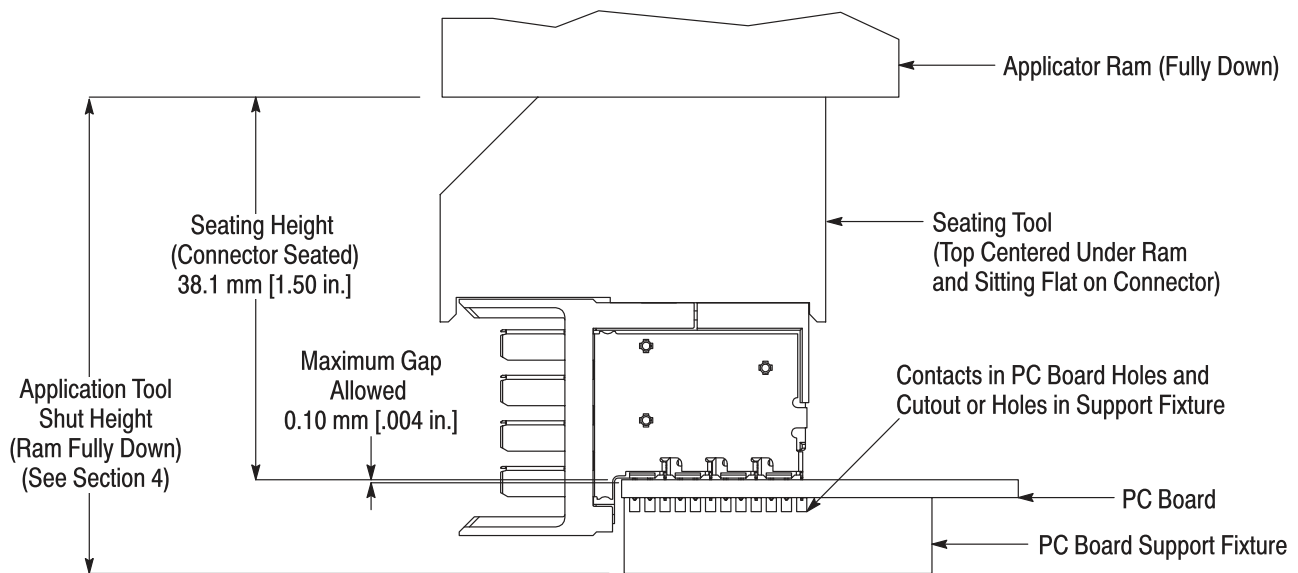

Figure 2
Set the seating height to the dimension shown in Figure 2 (application tool shut height will equal the
- b. the connector is seated on the pc board with the seating height—measured from the top of the connector to the top of the pc board—given in Figure 2